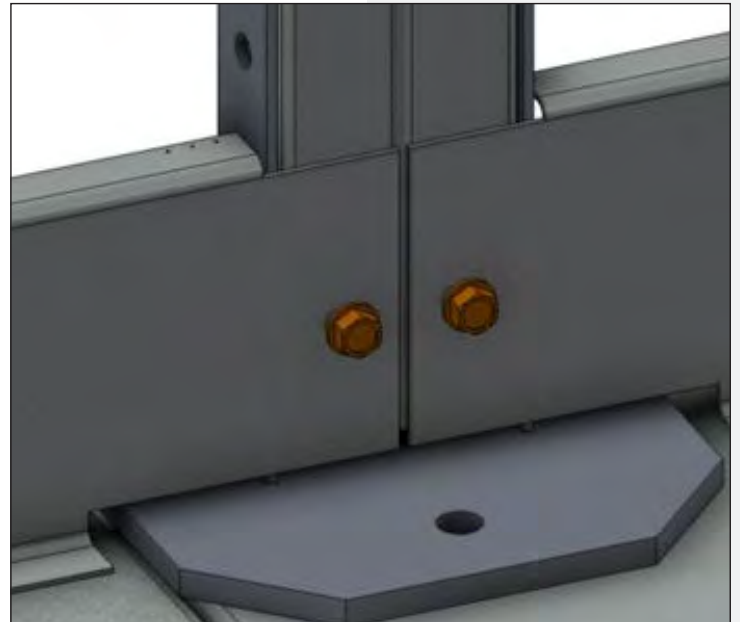

Figure 58. Top Perimeter Guardrail Toe Board Attachment
4. Install the toe boards using the 5/16" self-tapping screws provided. See **Figure 58**.